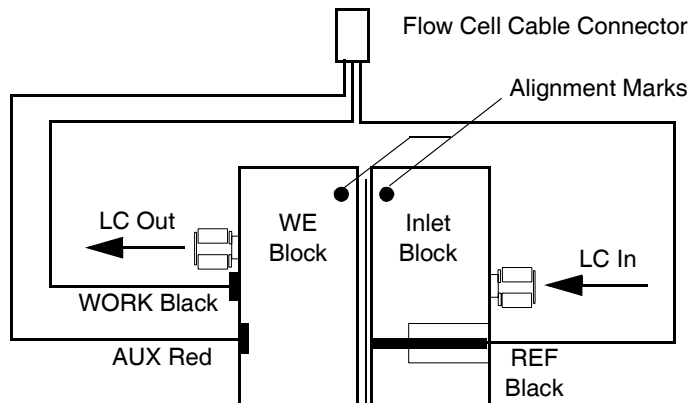

Figure 4-10 Assembling the Flow Cell
10. Connect the flow cell cable to the electrodes as follows (Figure 4-10):
5. Connect the column outlet to the flow cell inlet using small-bore tubing (0.3-mm ID) and one fingertight fitting (Figure 4-10).
9. Reconnect the three wires of the flow cell cable to the electrodes on the flow cell as follows (Figure 4-10):